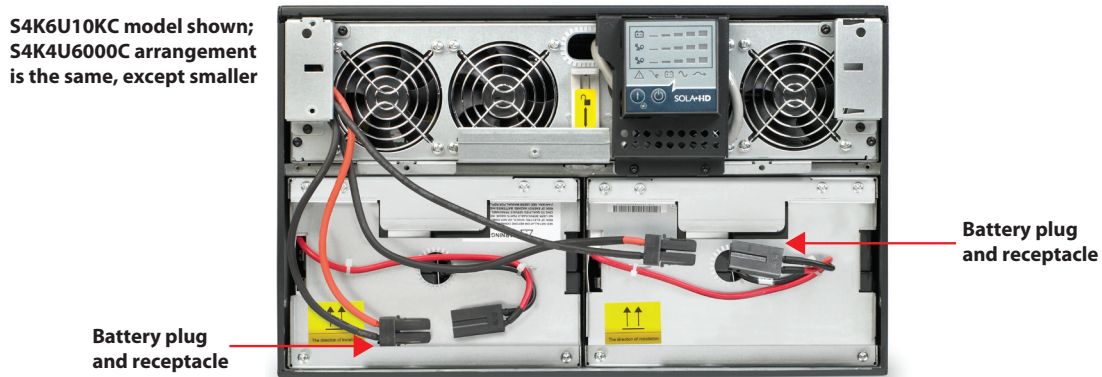

Figure 29: Disconnecting the battery plug and receptacle (front view)
6. Gently pull the battery wires out and disconnect the battery plugs and receptacles, as shown in Figure 29.